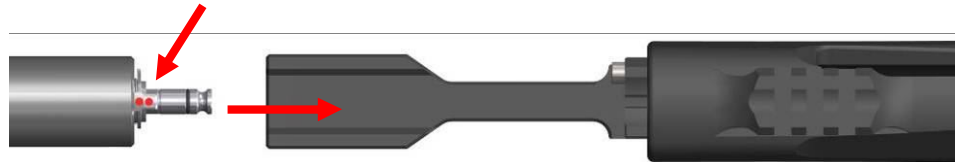

Figure 14
- (7) Insert new barrel with bolt head into casing. (Figure 14) Red dot on stud must